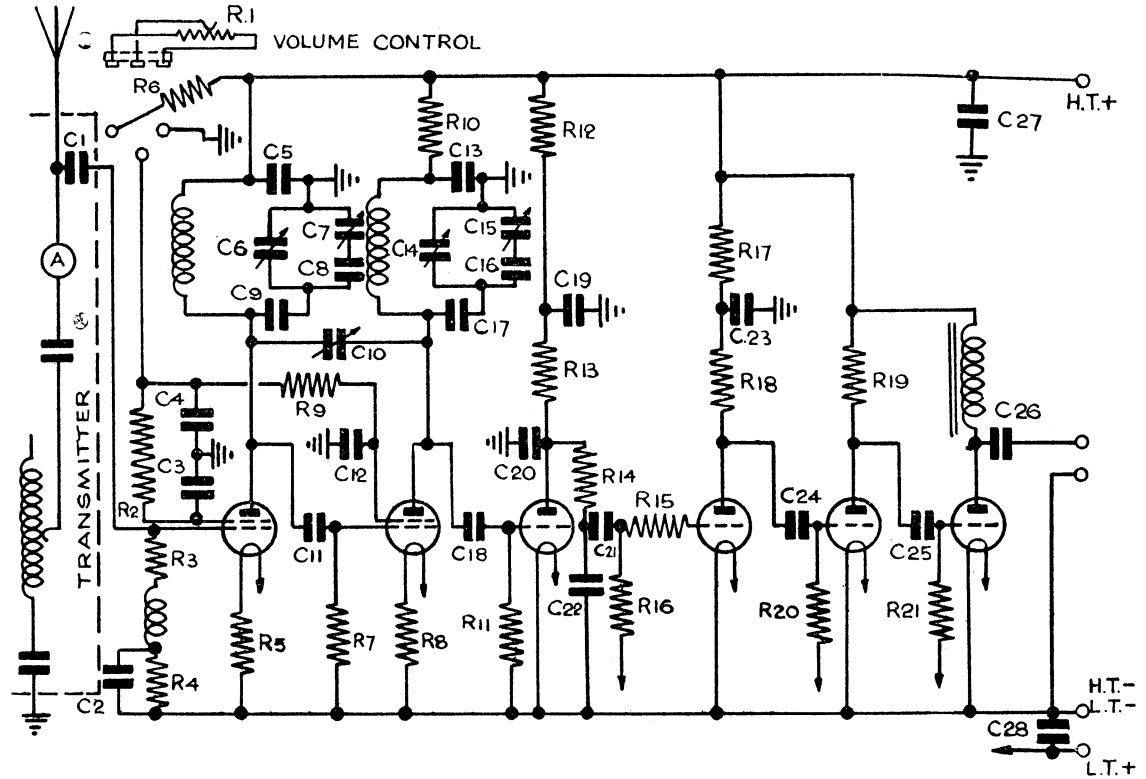

FIG. 72.—T.R. 9H receiver.
8. **Receiver Circuit** (fig. 72).—(i) As the aerial circuit of the receiver is tuned when tuning the transmitter, the two main tuning controls are the variable condensers in the two tuned anode circuits. Connected in parallel with these are two smaller condensers which are ganged together, and form the fine tuning control; this is not used in the air, and is normally locked.